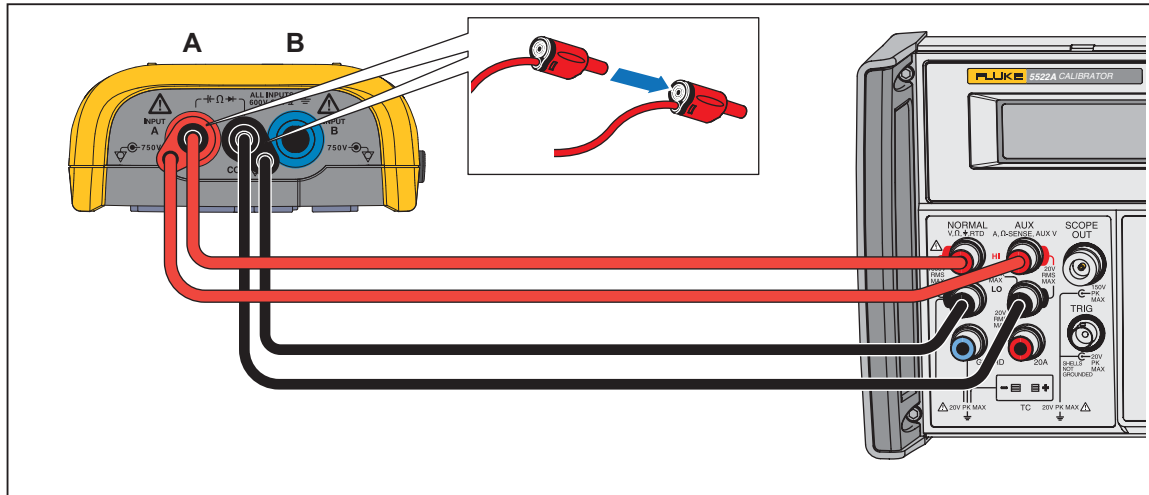

Figure 9. Test Tool Input A to Calibrator Normal Output 4-Wire
1. Connect the Test Tool to the Calibrator. See Figure 9.